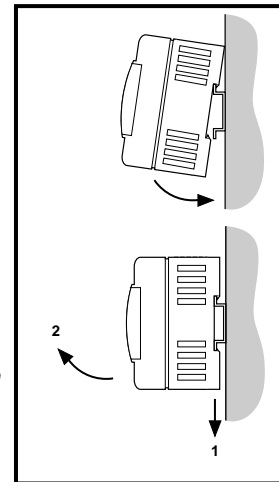

Figure 4: Mounting and Removing the Base Unit
1. Hook the base unit onto the rail as shown in Figure 4.